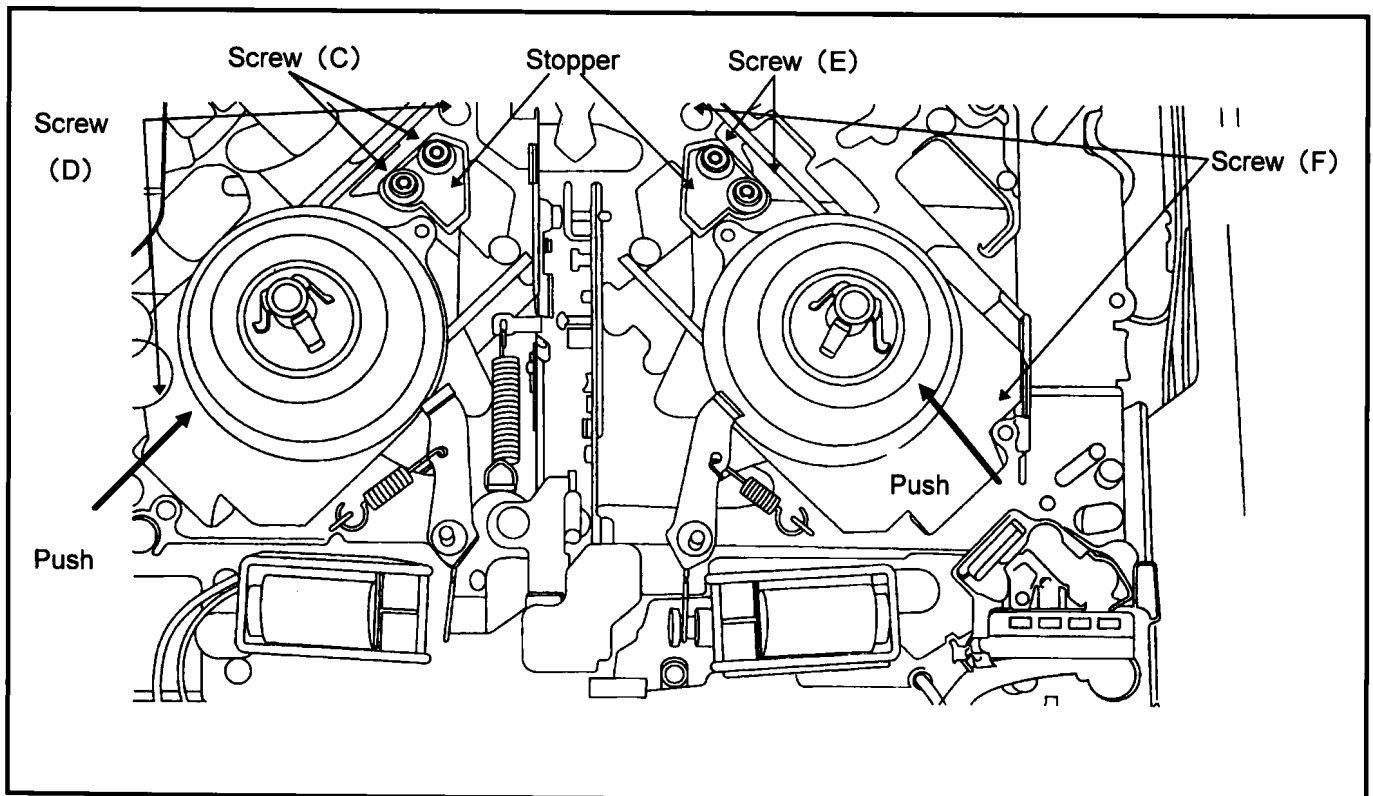

Figure 5-5
2. Turn the Emergency Gear until S1 Post move to center loading position and remove the S5 Post Base Unit (Refer to item 5-14).
4. Unscrew the 2 screws (C) to remove the Supply Reel Stopper as shown in below figure.
5. Push the Reel Table to middle position and unscrew the 2 screws (D) to remove the Supply Reel Rotor Unit as shown in Figure 5-5.